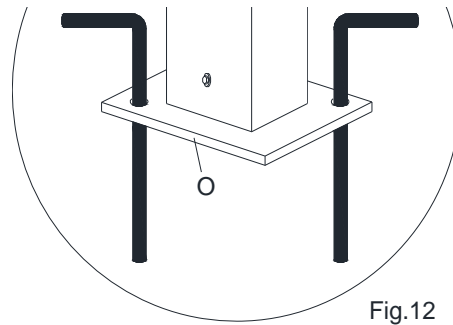

Fig.12
Secure the Gazebo to the ground by inserting the Stakes(Ⓞ) through the Main Pillar(G) bases. (See Fig.12)